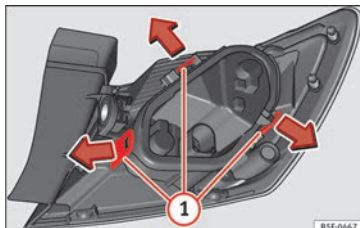

Fig. 112 Retaining tabs on reverse side of tail light.
- Remove the bulb holder » **Fig. 112** unlock the retaining tabs **①**.